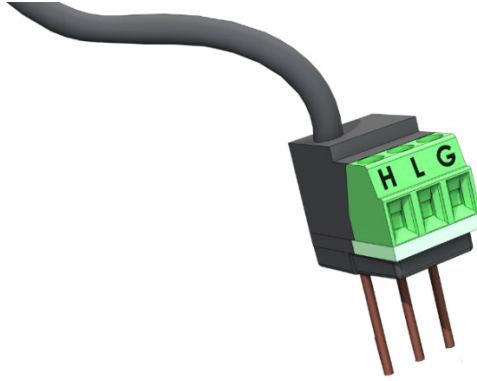

FIGURE 6-2. 4WPB100 Module
Cable 2 is for connecting the PT100. The CR1000X, CR1000, and CR9000(X) require the 4WPB100 module (FIGURE 6-2) to interface the PT100 to the data logger (TABLE 6-3). The PT100 sensor can connect directly to the CR6, CR3000, and CR5000 dataloggers because they have current excitation terminals (TABLE 6-4).